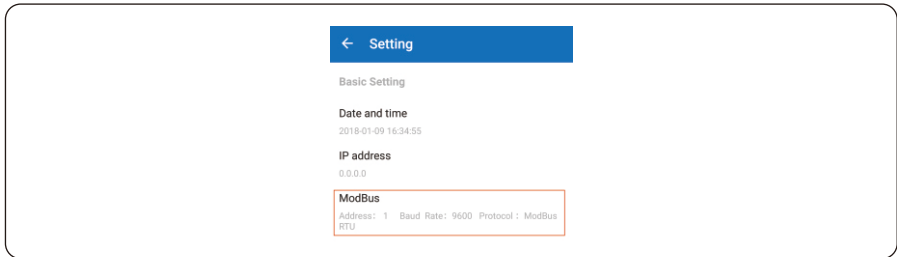

Figure 5.22 Check the Modbus address
Step 3 Check the Modbus address in Figure 5.22, the default address is 1, long click to revise the address and save it, the inverter at same RS485 bus must be set a unique address.